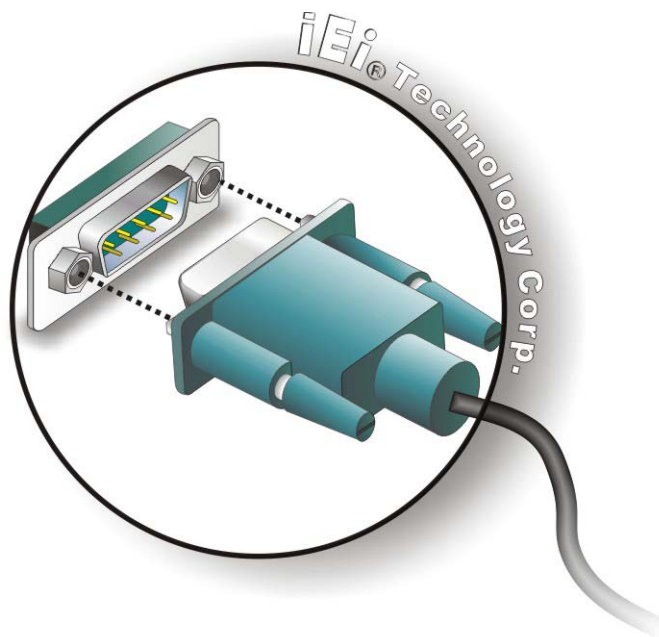

Figure 3-21: Serial Device Connector
Step 2: **Insert the serial connector.** Insert the DB-9 connector of a serial device into the DB-9 connector on the external peripheral interface. See **Figure 3-21**.